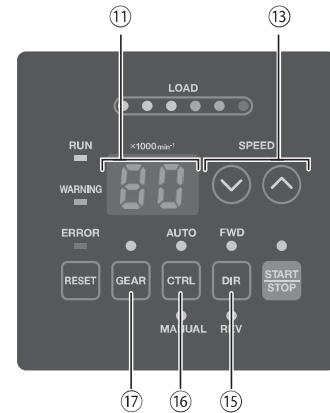

Fig. 26
- The Air input joint ⑦, is designed to accept cooling air between 0.25 - 0.3MPa (36.3 - 43.5psi). If the air pressure is too low, the CONTROLLER will not operate and an Error code will be generated.
- The cooling air also provides air purge protection to the motor spindle. If the Main Power Switch ⑨ is turned OFF, the cooling air will continue to flow. When using the CONTROLLER and SELECTOR without supplying cooling air, change setting parameter "**[P 7]** Setting Air Input Monitoring Override" to ON. Never spray coolant directly on the spindle body without an air purge.
- When using the SELECTOR, do not use Air input Joint ⑦ nor Air Output Joint ⑧ of the CONTROLLER. Install the provided Air Plug (($\phi 6$) for air stop) for safety and dust proofing to Air Input Joint ⑦ and Air Output Joint ⑧. The Air Input can be directly connected to the SELECTOR.
- Attach the provided Connector Cover for safety and dust proofing when not using the External Input / Output Connector A ③, B ④, or Serial I/F Connector ⑤ of the CONTROLLER.
15 - 1 Select Control Mode (MANUAL / AUTO). (Select the Control Button (CTRL) ⑯ of the Fig. 26.)
- (1) Using the Control Button (CTRL) ⑯ you can select between Manual (Front panel control) or Auto (External Signal Source) modes. External Signal Source can be used to control Motor Start / Stop, Rotation Direction, Motor Speed etc. From an external control source (CNC).
- (2) When operating from an External Signal Source, push the Control Button (CTRL) ⑯ of Fig .26 and select AUTO. The AUTO RED will illuminate.
- (1) Set Motor Rotating Direction (Set the Rotation Direction Button (DIR) ⑮ of the Fig. 26.)
- (2) Set 500 min⁻¹ (rpm) Centering Rotation (Set the Motor Speed Adjustment Button (SPEED ⬆, ⬇) ⑬ of the Fig. 26.)
- (3) Setting Gear Ratio (Set the Gear Mode Select Button (GEAR) ⑰ of the Fig. 26.)